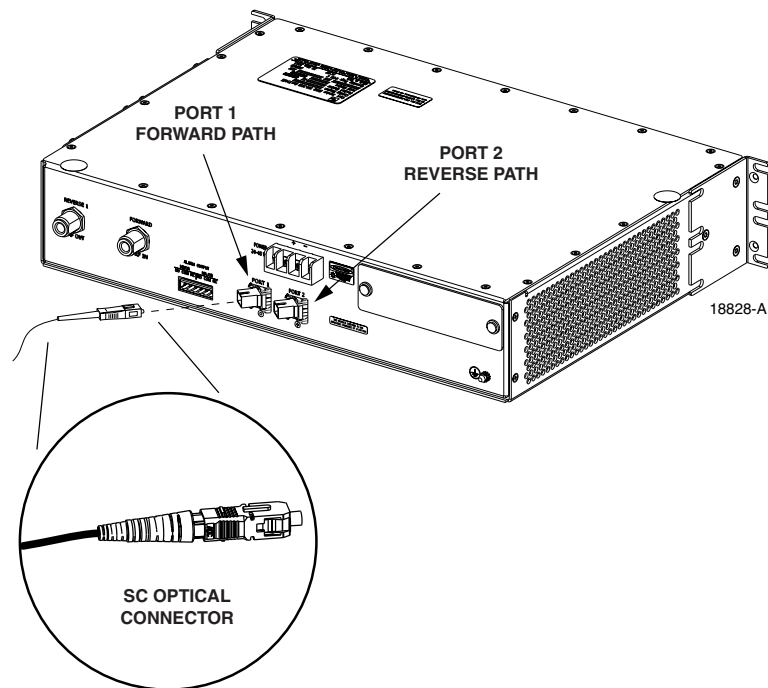

Figure 3-7. Fiber Optic Cable Connections To Host Unit
5. Insert the connector into the appropriate optical port as shown in Figure 3-7.